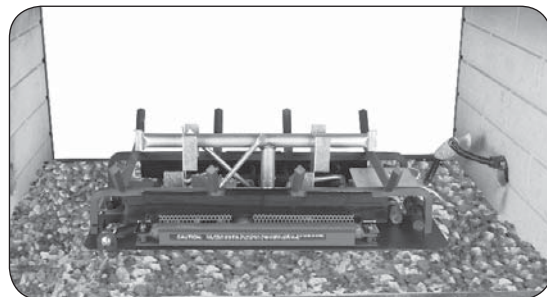

Fig. 16-1 Place lava granules
1. Spread the supplied lava granules on the floor of the fireplace; around all sides of the burner system (see Fig. 16-1). The lava granules may be placed around the remote receiver (as applicable). Leave the front of the receiver clear for control access.